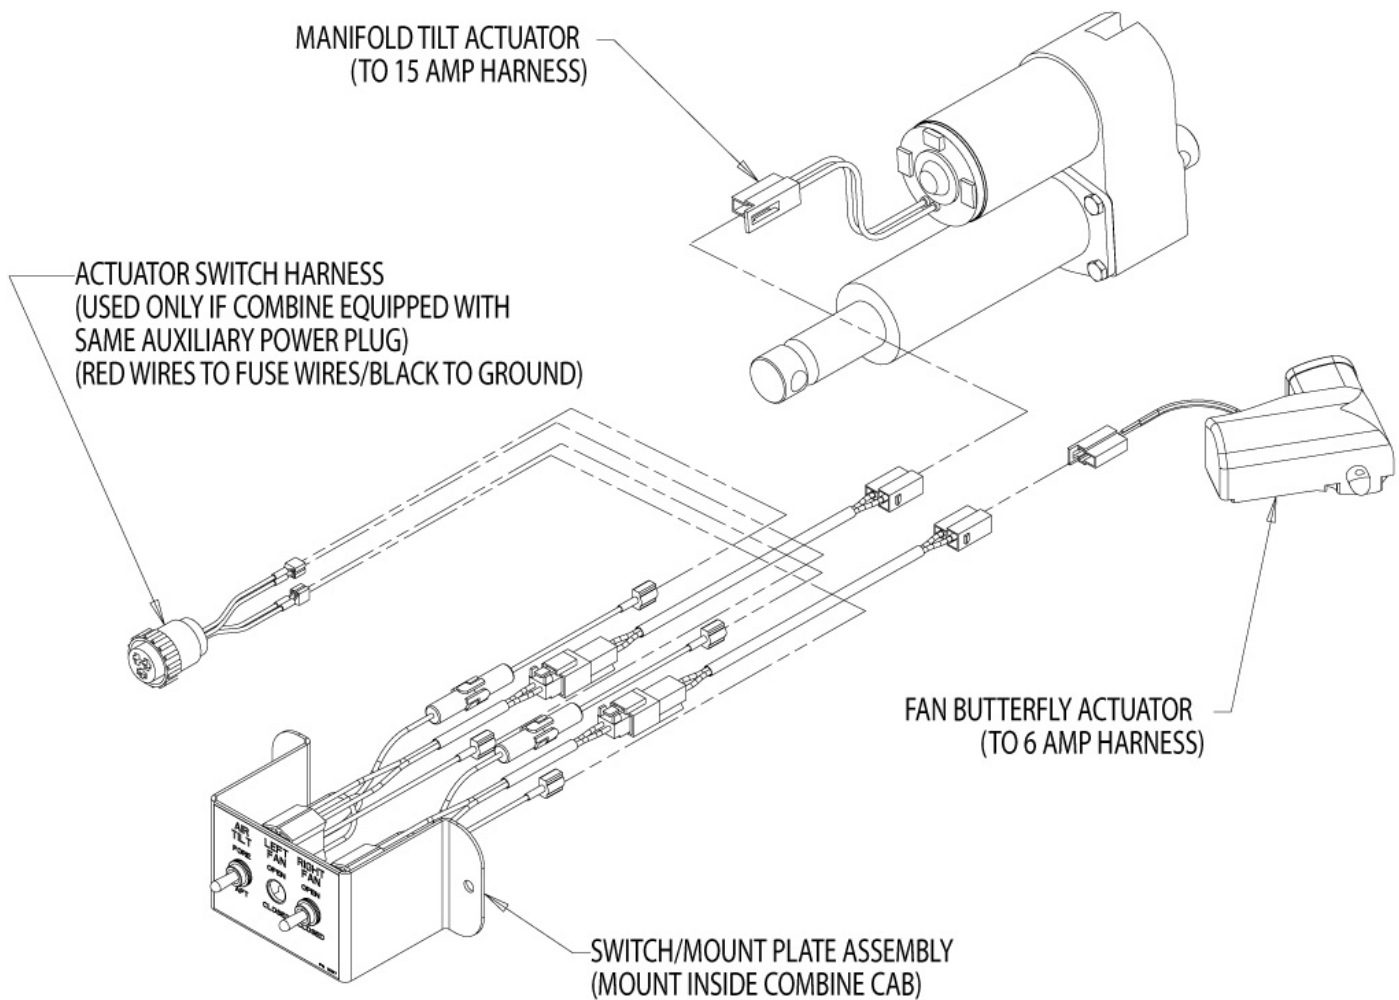

Figure 34, Switch/mount plate assembly
4. Route the long harnesses along the combine and header to the actuators (15 Amp Manifold Tilt; 6 Amp Air Volume) and plug in (Figure 34).